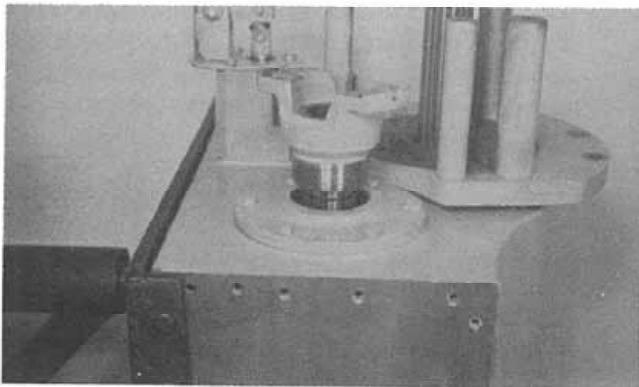

Figure 29:
23. Carefully install the output shaft drive yokes with O-ring seals (Fig. 29). Install the flatwashers and self-locking nuts. Torque the nuts to 250 to 270 lb. ft. (34.57 to 37.34 Kg/M).